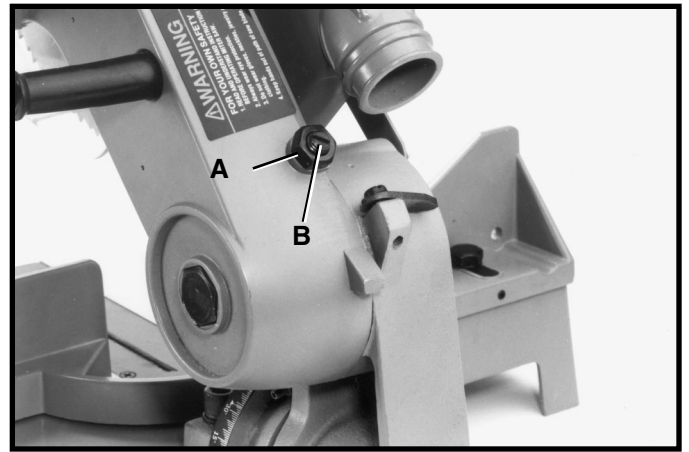

Fig.31
2. The downward travel of the saw blade can be limited to prevent the saw blade from contacting any metal surfaces of the machine. This adjustment is made by loosening locknut (A) Fig. 31, and turning adjusting screw (B) in or out.